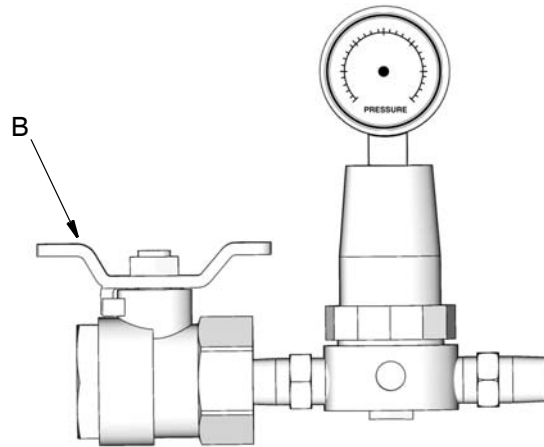

FIG. 3
Locate one bleed-type master air valve (B) close to the pump and use it to relieve trapped air (FIG. 3). For drum mounted installations only, also locate a second master air valve upstream from all air line accessories and use it to isolate them during cleaning and repair.
1. Using the hardware provided install the air controls to the air inlet of the pump as shown in FIG. 3. Use a minimum 1/4 in. (6.3 mm) ID air hose.
2. Install an air line quick disconnect coupler onto the end of the air supply line (C) and screw the mating fitting into the pump air inlet snugly. Do not connect the coupler to the fitting yet.